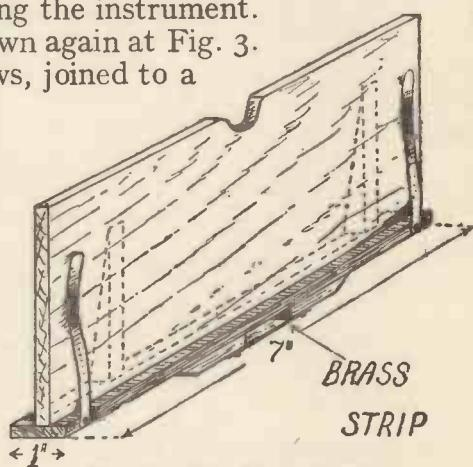

Fig. 3.—The View Carrier.
**The View Carrier.**—The view carrier is shown again at Fig. 3. It consists of a wooden back support for the views, joined to a narrow strip for a base. In front are screwed two springy brass or tinplate clips, bent to the shape shown, and at the rear two wedge-shaped pieces of wood (shown in dotted line) to keep the backboard vertical.